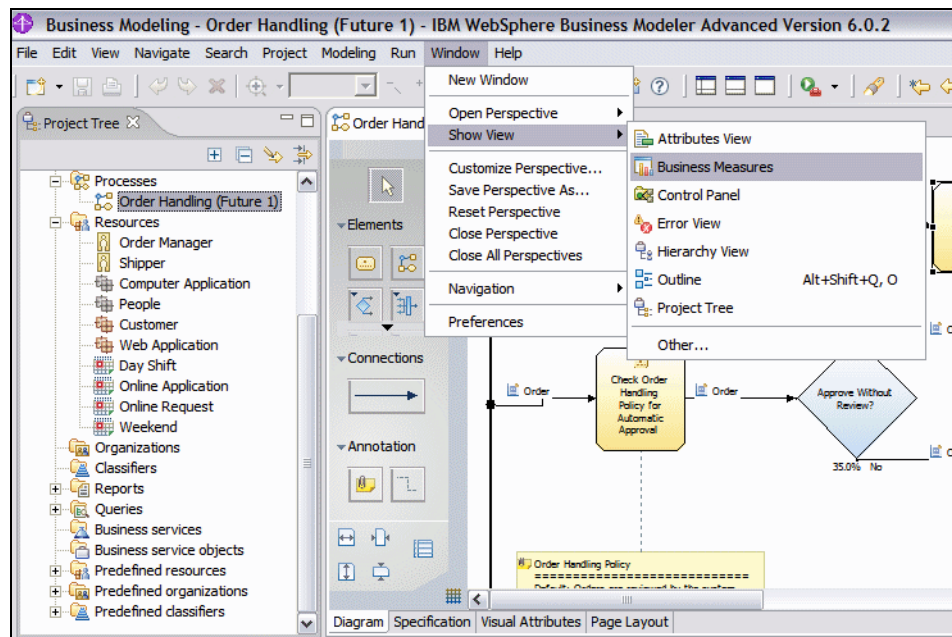

Figure 9-4 Select Business Measures
- ▶ If you have not already done so, make the Business Measures view visible by selecting *Windows* → *Show View* → *Business Measures* (Figure 9-4).